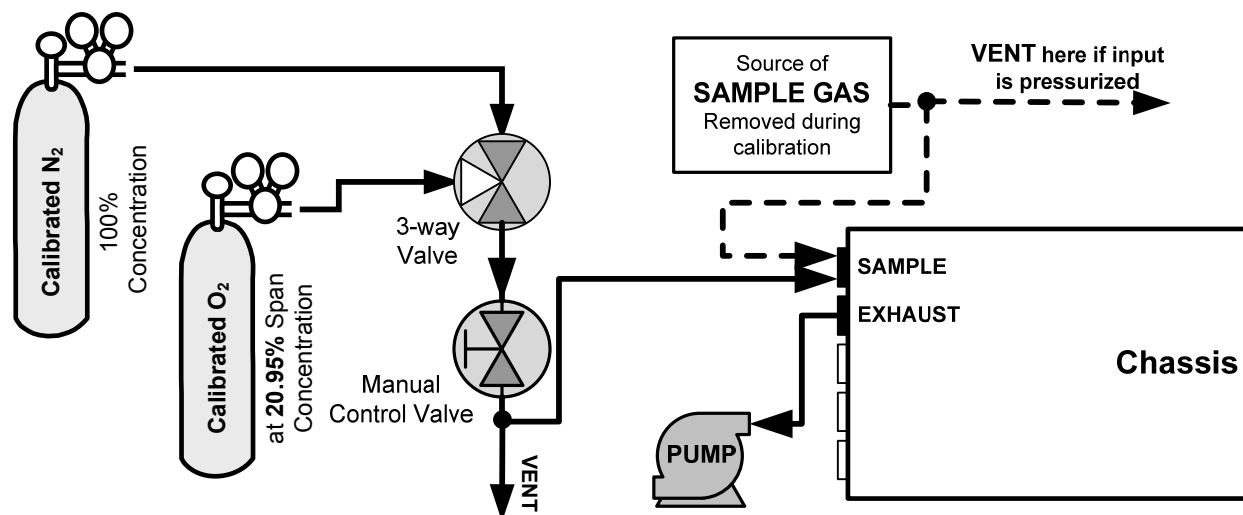

Figure 3-16: Pneumatic Connections–Basic Configuration–Using Bottled Span Gas
- In applications where the sample gas is received from a pressurized manifold, a vent must be placed on the sample gas before it enters the analyzer. Please refer to Figure 3-16.
The span gas, zero air supply and sample gas line **MUST** be vented (Figure 3-16) for two reasons: in order to ensure that the gases input do not exceed the maximum inlet pressure of the analyzer, and to prevent back diffusion and pressure effects. These vents should be: